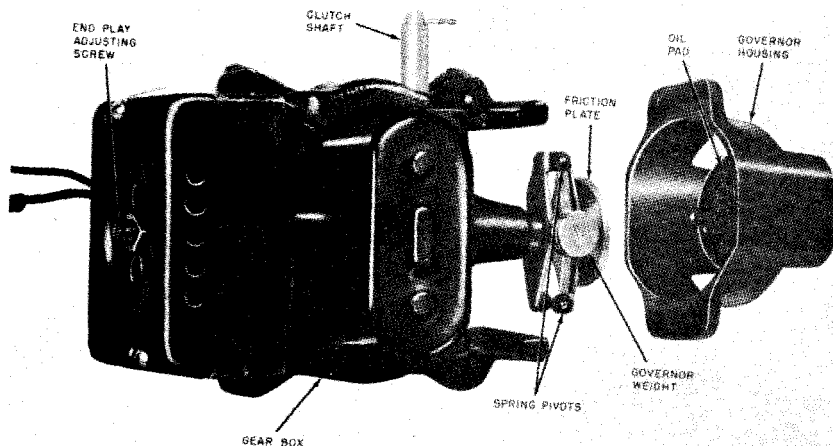

Figure 52. Gear box and motor, governor housing removed
c. *Disassembly of Governor* (fig. 52).
- (1) Remove the governor housing by removing the four screws that hold the governor housing to the gear box. Pull out the governor housing.
- (2) Loosen the set screw that holds the governor to the motor shaft. Remove the governor.